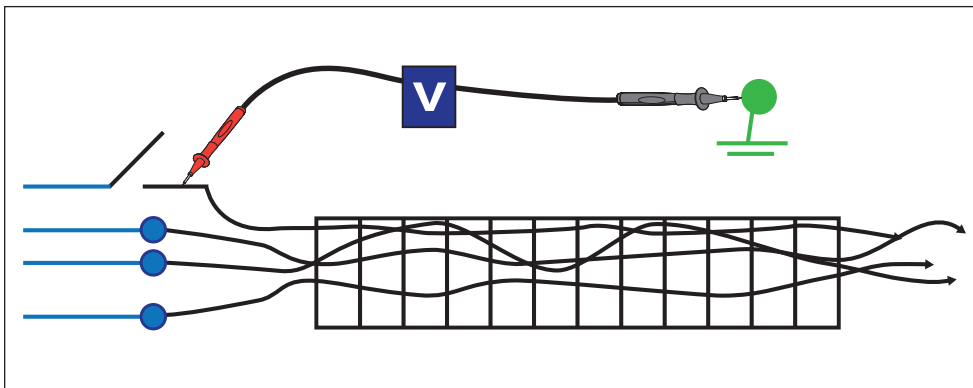

Figure 1. Low-voltage induced voltage scenario.
- 4 **Induced or “ghost” voltages could be present.** Many people think induced voltages only happen in outdoor, high-voltage substations. While that’s the biggest danger from induced voltages, low-voltage circuits run in cable trays can also induce a voltage into deenergized cables that are in the same cable tray (see Figure 1). Applying a static ground to this circuit would dissipate the voltage without problem, since an induced voltage does not have any short circuit current capability.